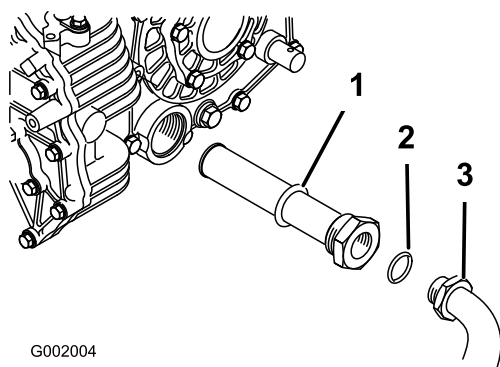

Figure 66
5. Remove the hydraulic hose and 90° fitting (Figure 66).